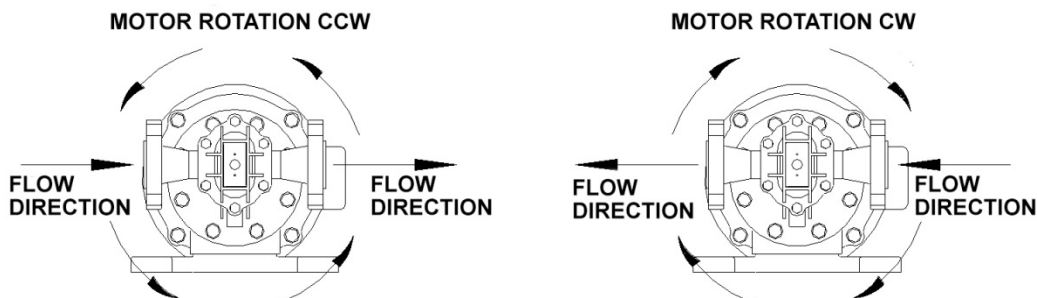

Figure 2b – Flow vs. Motor Rotation
- Direction of flow is dependent on direction of motor rotation. Reversing the motor direction, and therefore the drive shaft rotation direction, reverses flow. This will also change which port is the suction and which is the discharge, see Figure 2b. Since the Eclipse Series pumps can be installed both horizontally (standard) and vertically, it is very important to identify the suction pipe connection which will determine the required motor rotation.
- ✓ **Confirm Flow Direction** - As noted in **Section 4.2**, Eclipse Series pumps are bi-directional; the direction of flow is determined by the direction of motor rotation. Refer to Figure 2b.